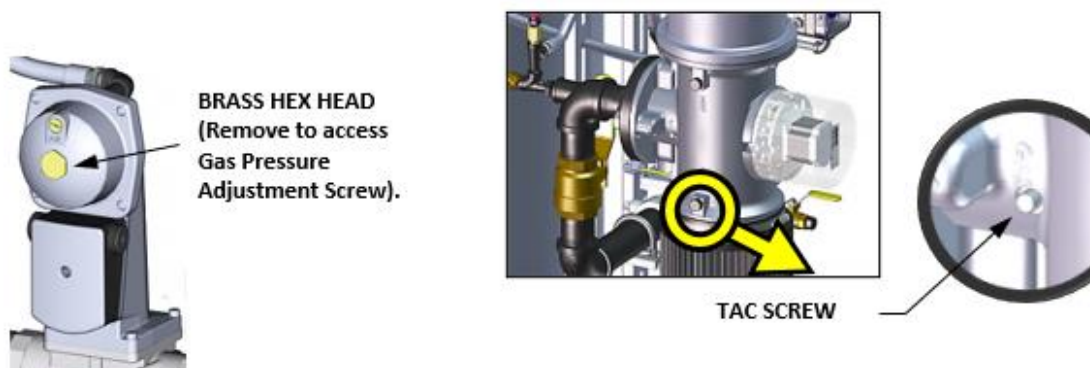

Figure 4-3: Gas Pressure Adjustment Screw and TAC Screw Location
15. Verify that the manifold gas pressure on the **downstream** side of the SSOV is within the range shown in Table 4-1. If it isn't, remove the brass hex nut on the SSOV actuator to access the gas pressure adjustment screw (Figure 4-3). Make adjustments using a flat-tip screwdriver, slowly rotating the gas pressure adjustment (in 1/4-turn increments) **clockwise** to **increase** gas pressure or **counterclockwise** to **reduce** it. The resulting gas pressure reading on the **downstream** manometer should fall in the range listed below.
24. If the oxygen level at the lowest valve position is too high, and the Blower voltage is at the minimum value, you can adjust the TAC screw, which is recessed in the top of the Air/Fuel Valve (see Figure 4-3). Rotate the screw 1/2 turn **clockwise (CW) to add fuel and reduce the O₂** to the specified level. Recalibration **MUST** be performed again from 60% or 50% down to the lowest valve position after making a change to the TAC screw.